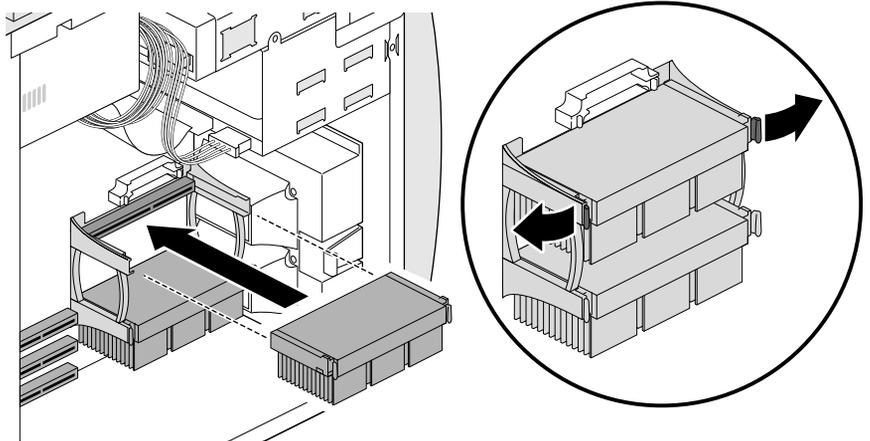

Figure 6-4 Installing a Processor
8. Install the processor, as shown in Figure 6-4.